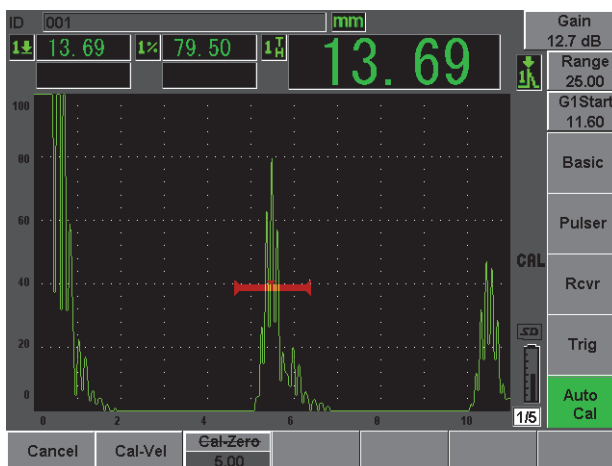

Figure 2-15 The gate 1 start
11. Bring the indication to 80 % full screen height using the (**AUTO XX%**) function (see Figure 2-15 on page 49).